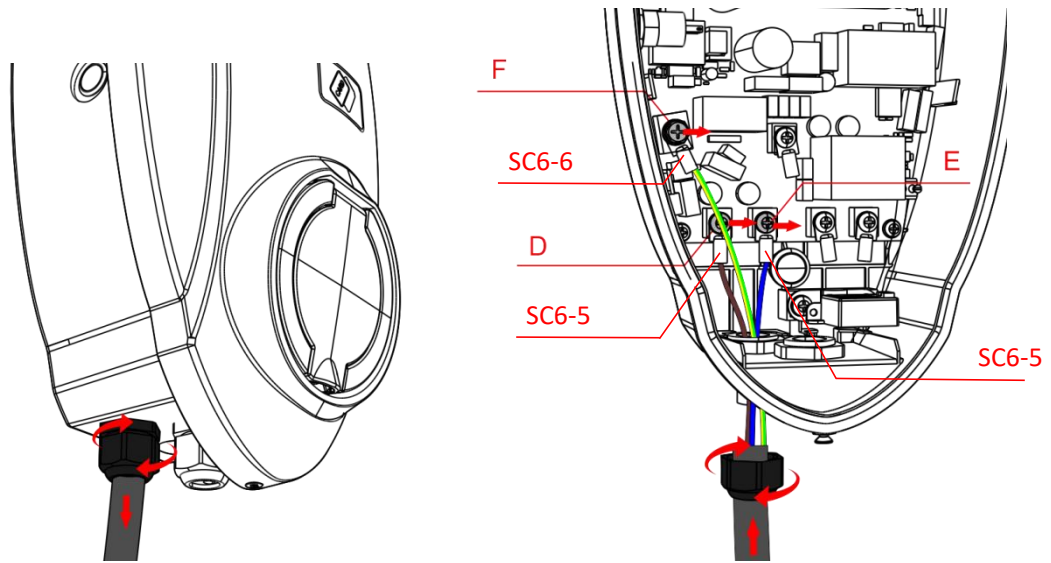

Figure 4.3-2 Figure 4.3-3
2) The socket and cable are installed in the same way, as shown in Fig. 4.3-2 and Fig. 4.3-3.
Step 1: As shown in Fig. 4.3-2, turn anticlockwise to unscrew the sealing connector and thread the cable into the connector cover.